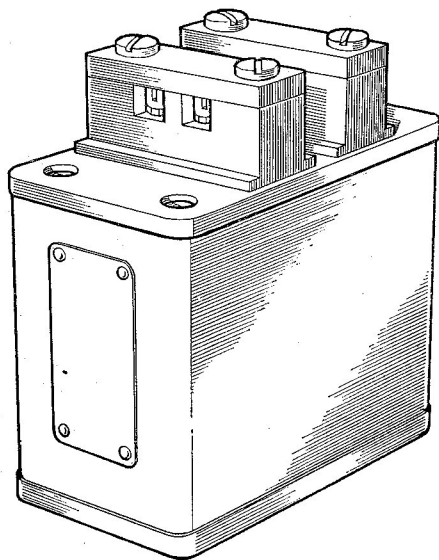

Fig. 1. Transformer-rectifier unit, Rotax, Type ZA12201
2. The unit (fig. 1 and 2) incorporates a toroidal transformer in conjunction with two silicon diodes and a metallized plastic foil 0.05 μ F capacitor. The components are mounted on opposite sides of a group board,